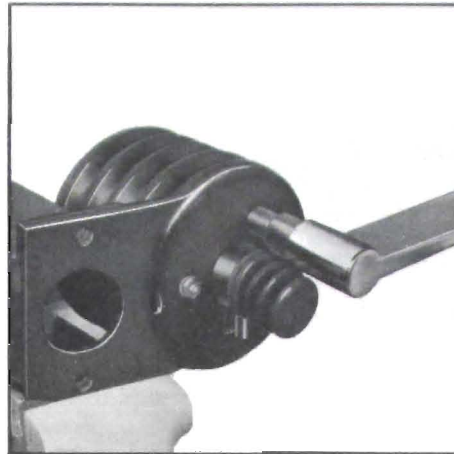

Figure 9-34—Positioning Mounting Bracket
11. Position mounting bracket on mounting hub with threaded studs projecting through holes in mounting bracket and start three lock washers and nuts. Align slot in mounting bracket with tab on bellows and tighten three nuts to 85-115 inch-pounds torque. Figure 9-34.